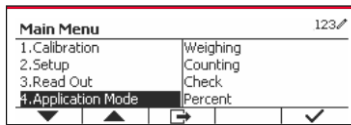

Figure 37
1. Press the  button to enter the Main Menu. (See Figure 37)
2. With the button corresponding to the ▼ icon, go down the list and highlight Application Mode. Enter this submenu by pressing the button corresponding to the ✓ icon. (See Figure 37)